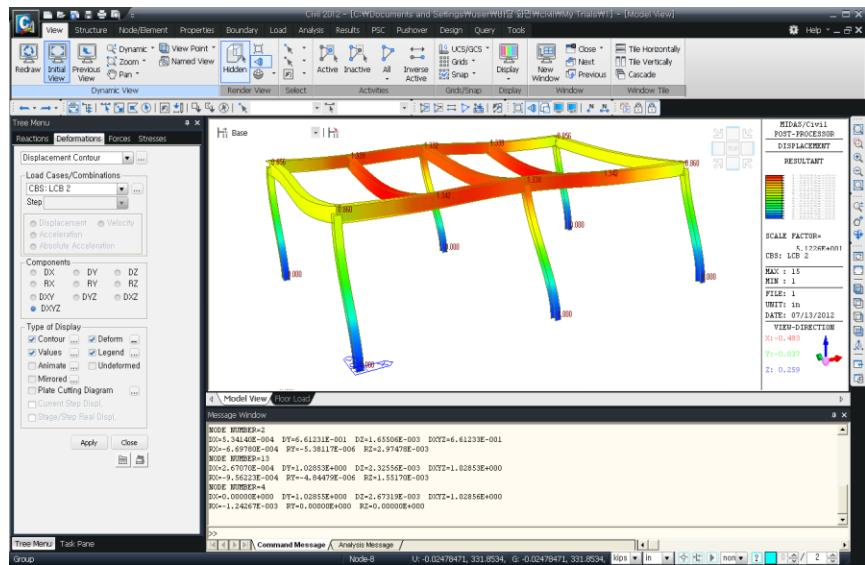

**Figure 1.29 Deformed Shape (Contour lines)**
1. Select **Displacement Contour** from the functions selection field (Fig.1.29–❶).
The Gradation method is a tool to smoothen the contour distribution shown in Fig.1.29. In addition, the model is displayed in **Perspective View**.